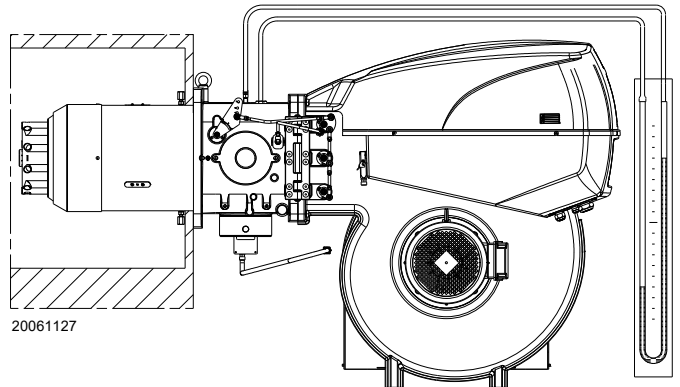

Fig. 27
- Fit a U-type pressure gauge or a differential pressure gauge (Fig. 27), with socket (+) on the gas pressure of the pipe coupling and (-) in the combustion chamber.
The arrival of gas at the pipe coupling is indicated by the U-type pressure gauge (Fig. 27).